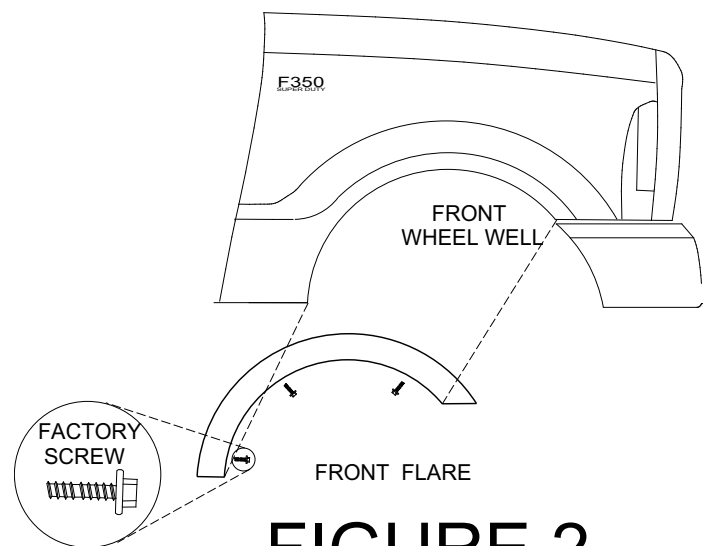

FIGURE 2
- (A) Pre-drill all flares with a 3/16" drill bit using the indents formed into the flare as a guide.
- (B) Remove the three factory screws from front wheel well using the 7/32" socket.
- (C) Holding front flare in place on fender, secure with factory screws through holes drilled in flare. **See FIGURE 2.**